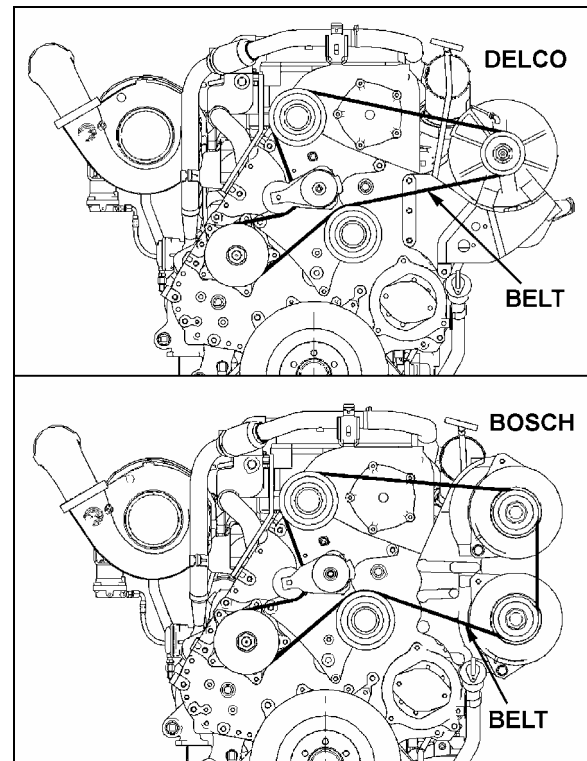

FIGURE 28: ALTERNATOR DRIVE BELT
1. Insert a $\frac{3}{4}$ inch socket drive into one of the tensioning arm opening (Figure 28).